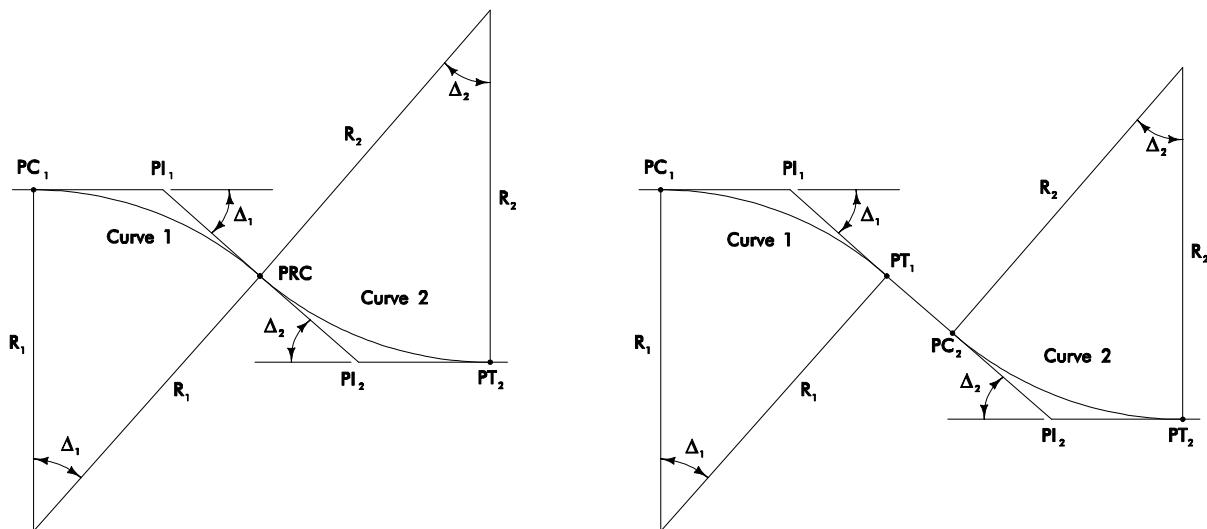
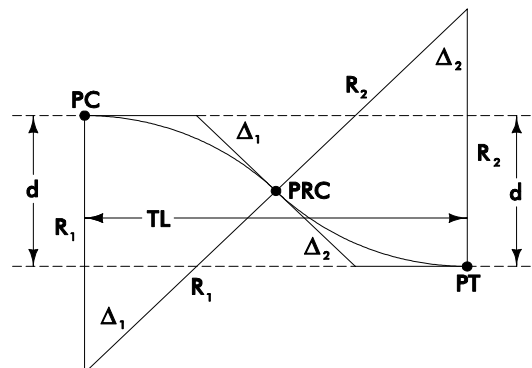

Figure 1: Reverse curves without and with a tangent section between.
Figure 3: Reverse curve for lane redirection in example problem.
A reverse curve is two circular curves with opposite deflection angles. The curves may have equal or unequal radii and/or deflection angles. The curves may be continuous or separated by a short tangent section, see Figure 1. The tangent length is normally determined by superelevation transition requirements. Each of the curves in a reverse curve is treated in a similar manner as a horizontal curve (see Section 2A-1).
Reverse curves in median crossovers are separated by a short tangent section from PT_1 to PC_2 (see Figure 1) that allows the superelevation to transition from the slope of Curve 1 to the slope of
1. Simplify calculations by setting R_1 and R_2 in Figure 1 equal to each other. Parallel offsets result in Δ_1 and Δ_2 being equal to each other. This produces the situation illustrated in Figure 3.
2. Using Table 1 in Section 2A-3 with a normal crown (NC), $R = 8000$ feet.
3. Since the median is $16'$, d in Figure 3 is $16'$. With trigonometry it can be shown that